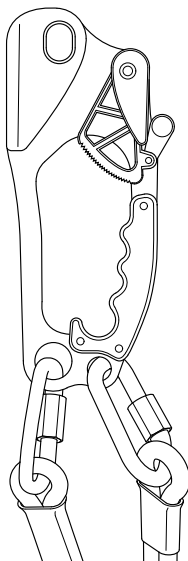

FIG. 2
2. Lock the spring arm onto the body of the ascender (Fig.2)